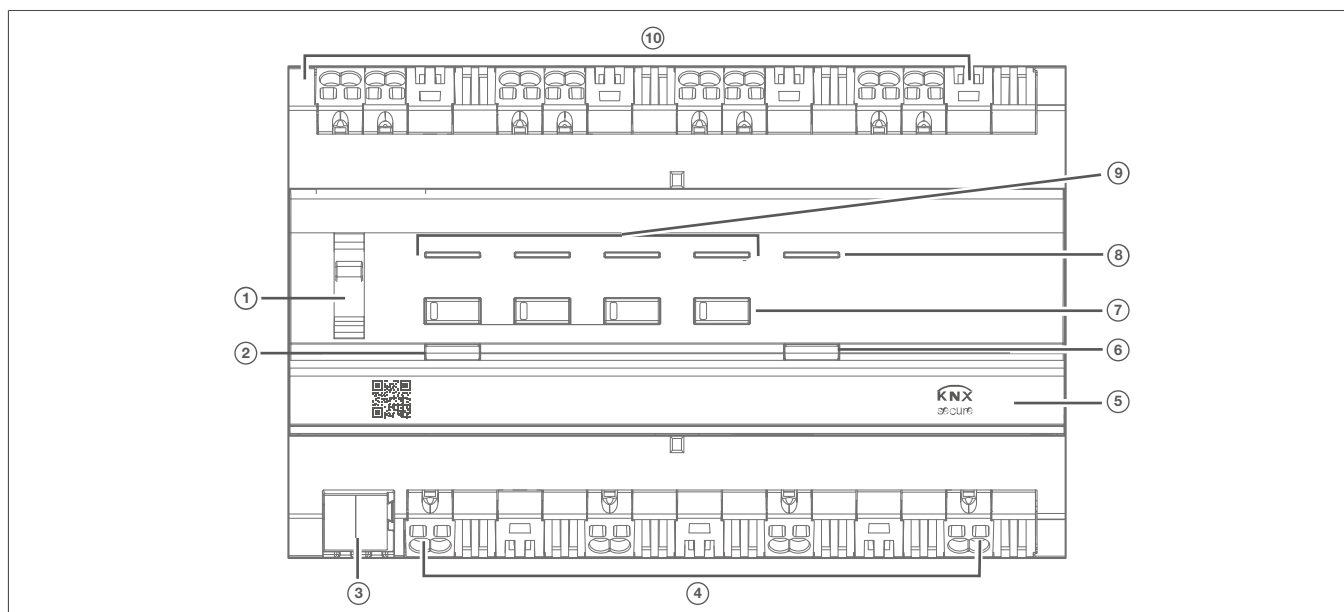

Fig. 2: Design and layout of the device TYAS664AN
Short circuit and overload are signalled via the control LED (Bild 2/9). The load is throttled (see Troubleshooting).
Overheating of the device is signalled by a permanent light of the control LED (Bild 2/8). The connected load is throttled (see Troubleshooting).
- Move the switch (Bild 2/1) to position .
Manual mode is switched on, the outputs can be controlled independently of each other via the operation buttons (Bild 2/7):
- Move the switch (Bild 2/1) to position **auto**.
Manual operation is switched off. Operation takes place solely via the KNX bus. The output assumes the position predefined by the bus controller. The switching status is displayed by the status LED of the operation button (Fig. 2/7).
Operation takes place by a short or long press on the operation button (Bild 2/7).
Condition (Bild 2/7)	Behaviour when button is pressed (Bild 2/7)
Load is switched off. Status LED of the button (Bild 2/7) is off.	Short button-press: ON – the connected load is switched on. LED of the button lights up. Long button-press: Dimming to the maximum brightness. Status LED of the button lights up.
Load is switched on. Status LED of the button (Bild 2/7) lights up.	Short button-press: OFF – the connected load is switched off. LED of the button goes out. Long button-press: Changes the current brightness. Dimming takes place in the opposite direction of the last dimming operation until maximum or minimum brightness.